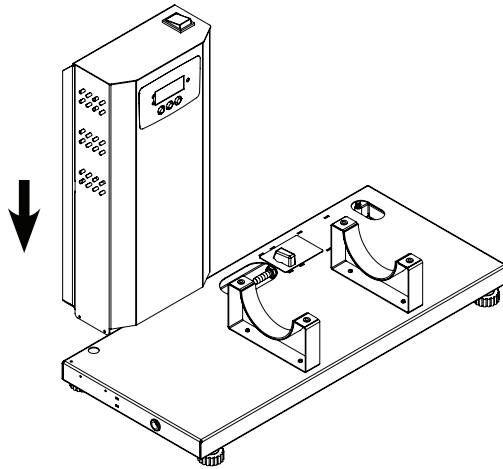

Fig 18.1 Controller box
2. Place the control panel as shown in (fig.18.1)